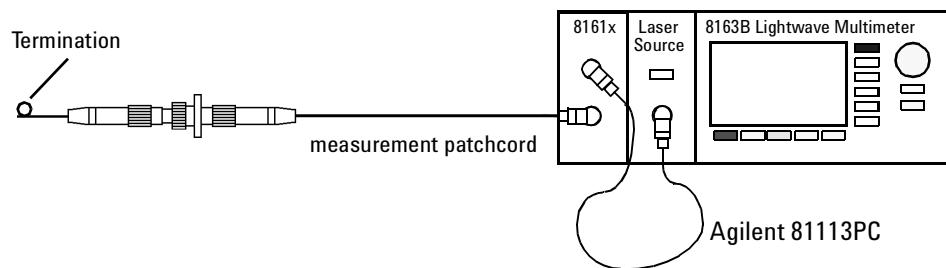

Figure 106 Measuring the Return Loss of the DUT (in this example: a Connector Pair)
- 1** Attach the DUT to the measurement patchcord. In the example shown in Figure 106 , the DUT is a connector pair.